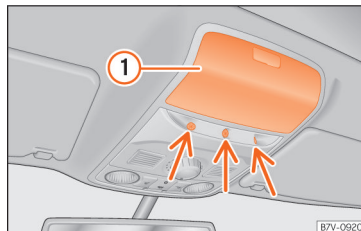

Fig. 93 On the roof console: passenger compartment monitoring sensors.
- Close the storage compartment »» Fig. 93
① on the roof console, otherwise the interior monitoring function (arrow) is not guaranteed to work freely.